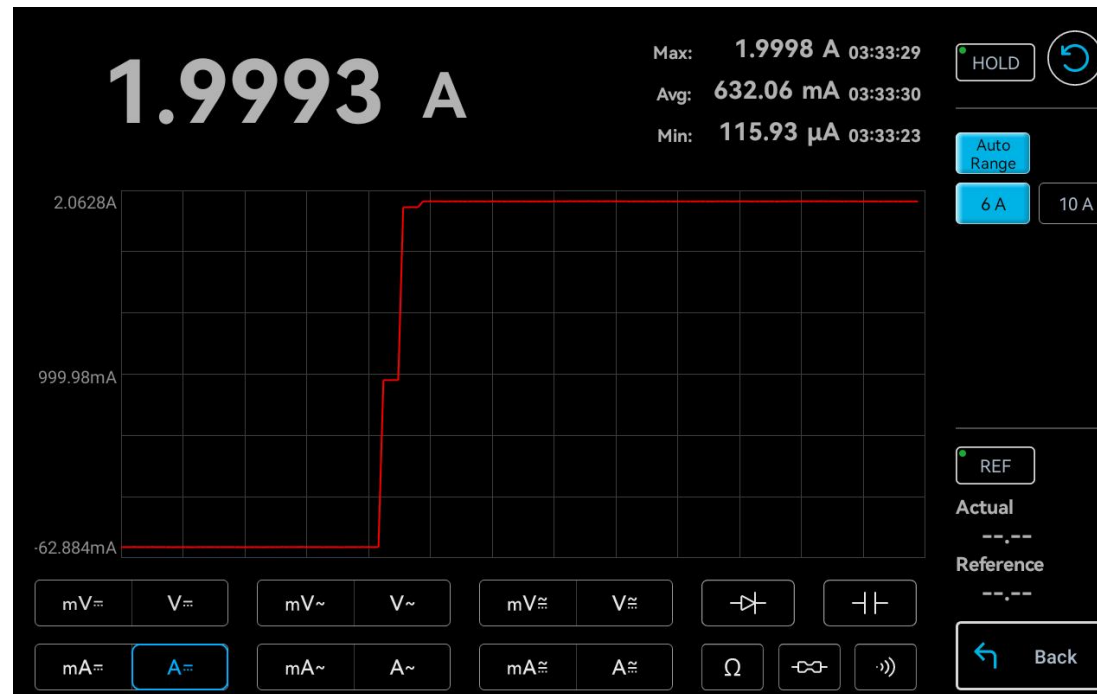

Figure 8-9 DC Current Measurement (A)
Test Steps: Select and enable the DC current measurement (A) in the measurement item selection area , as shown in Figure 8-9.